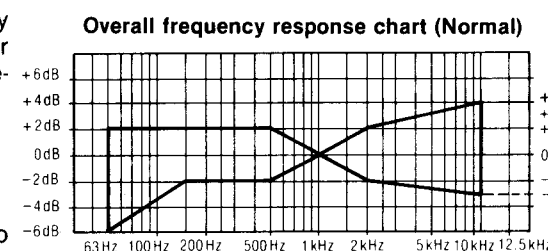
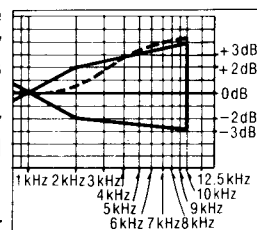
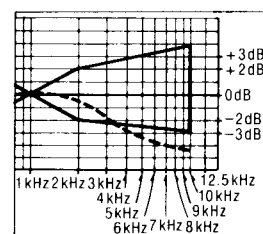

Fig. 10
Fig. 12
Fig. 13
- Playback the signals recorded in step 6, and check if the frequency response curve is within the limits shown in the overall frequency response chart for normal tapes (fig. 10). (If the curve is within the charted specifications, proceed to steps 7, 8 and 9.) If the curve is not within the charted specifications, adjust as follows;
When the curve exceeds the overall specified frequency response chart (fig. 10) as shown in fig. 12.
- Repeat steps 5 and 6 for confirmation (Proceed to steps 7, 8 and 9 if the curve is now within the charted specifications as shown fig. 10.)
- If the curve still exceeds the specifications (fig. 10), increase bias current further and repeat steps 5 and 6.
When the curve falls below the overall specified frequency response chart (fig. 10) as shown in fig. 13.
- If the curve still falls below the charted specifications (fig. 10), reduce bias current further and repeat steps 5 and 6.